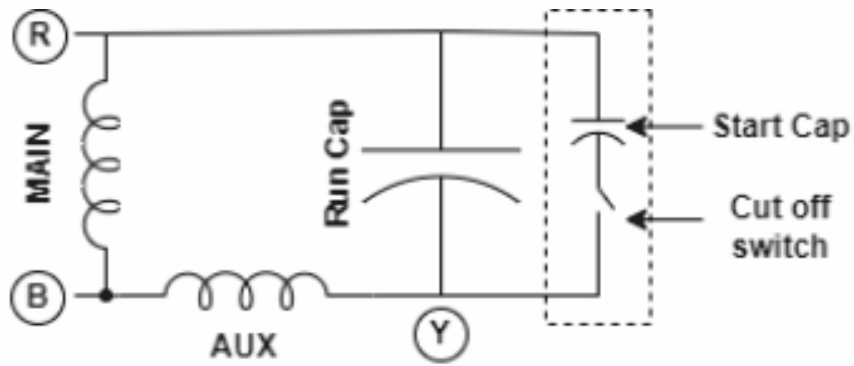
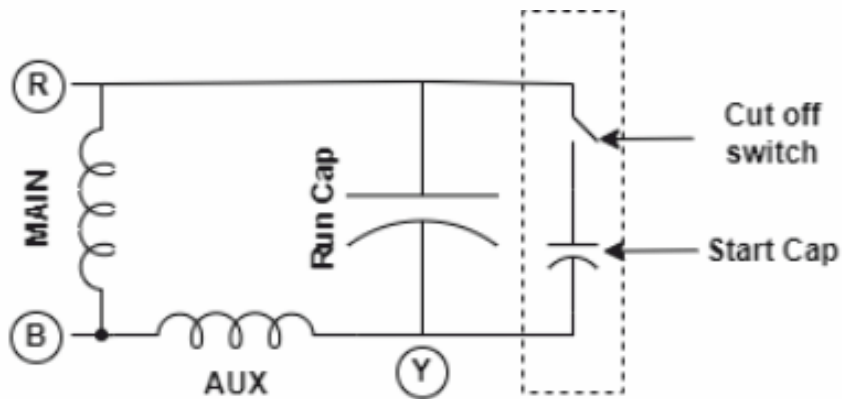

Fig 6.10a Connection diagram with cut-off switch connected to Aux winding
Fig 6.10b Connection diagram with cut-off switch connected to main winding
- Make sure that “B” wire of the drive connects to the “Common (C) / junction of main and Aux winding” of the motor. The controller makes VRB = Main winding voltage and VYB = Aux winding voltage.
- If someone wants to use the motor with the utility supply as well as USPC. A shakti changeover switch is required to switch the input power connection. The overall connection diagrams are shown in Fig 6.10a and Fig 6.10B, wherein the start capacitor should be connected on the utility side of changeover box.